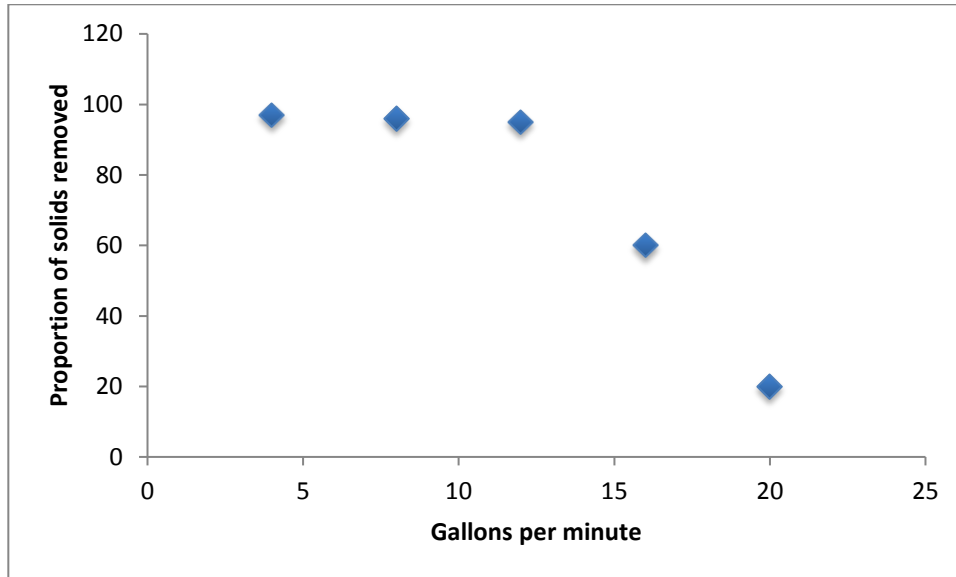

Figure 2.1. Influence of flow rate on the proportion of waste removed by a sand filter.
2. Use the data in the first two columns to make a graph of the proportion of large particulate matter removed from the water. Be sure to label both axes. Title your graph: *Figure 2.1. Influence of flow rate on the proportion of waste removed by a sand filter.*